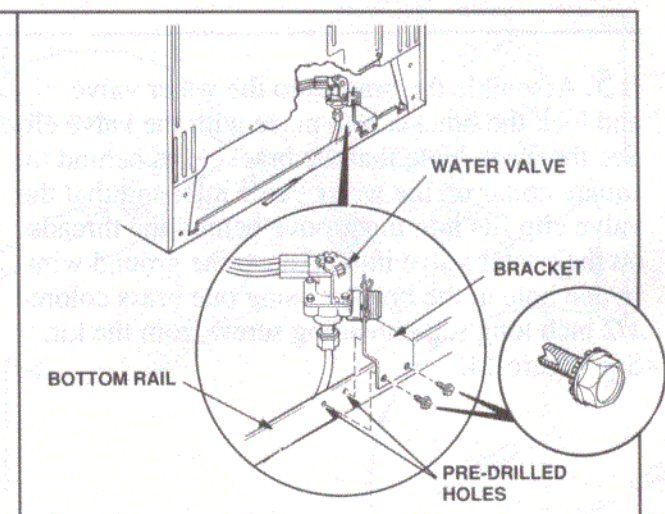

Figure 17
20. Attach the water valve in the second two sets of holes to the front end of the lower rail, using the two remaining 1/2 inch long, self-threading brass screws provided in the kit. Keep the plastic tube to the right of the valve. *Pre-drilled holes are provided in the rail.* Do not drill any additional holes. See Figure 17.